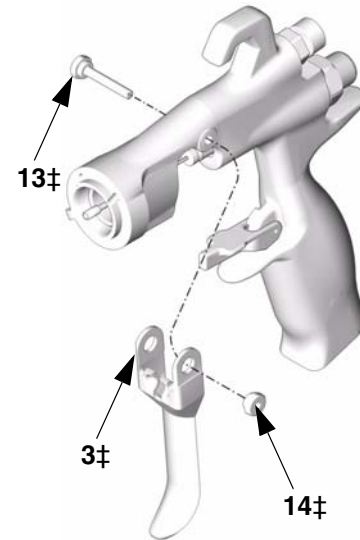

FIG. 38
2. Remove the trigger pivot pin nut (14‡), pivot pin (13‡), and trigger (3‡) using the gun tool (30) and nut driver (29). See FIG. 38.